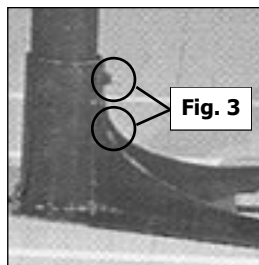

Fig. 3
2. Lift post into base, tighten the two grub screws up to the clamping plate (Fig. 3).